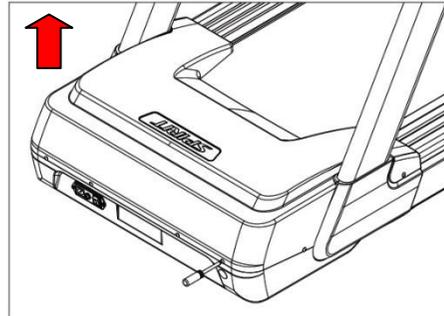

Figure 4.2.1
- 1) As shown in Figure 4.2.1, use a screwdriver to loosen the eight screws that secure the motor cover. Remove the motor cover.
- 1) Refer to figure 4.2.1 to remove the motor cover.